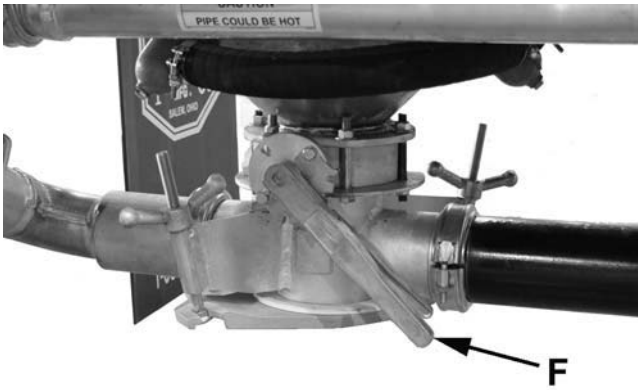

Figure 5-10 – Front Discharge Valve Half Open
13. When tank has reached specified operating pressure, open proportioning valve (E) to the half-open position.
14. Slowly open discharge valve (F) on front hopper to the half-open position. When material begins to flow, fully open discharge valve. See Figure 5-10 & 5-11.